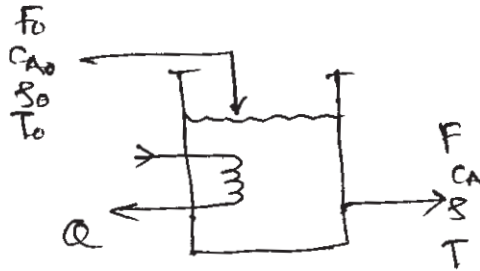

Fig. No. 02.
b) Consider the CSTR system shown in figure No. 02. [8]